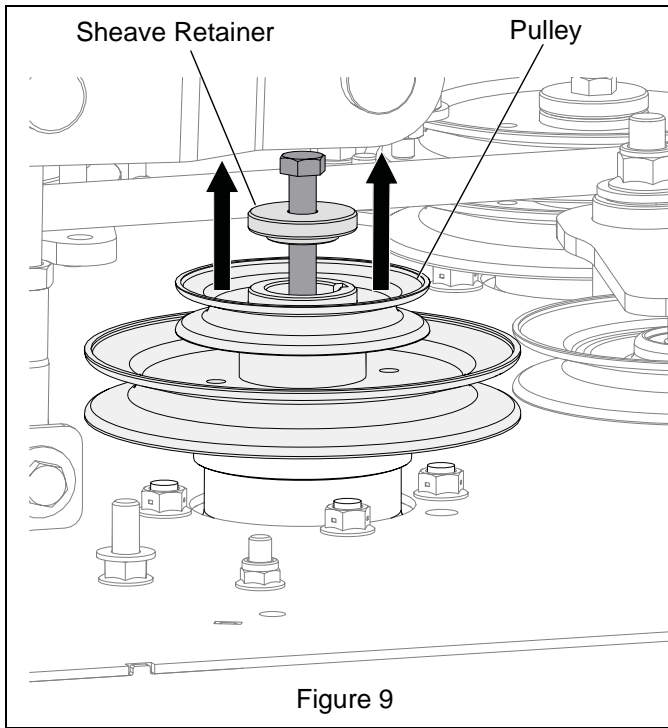

Figure 9
- Remove 3/8" hex bolt and sheave retainer from top of spindle. Remove pulley. Dispose of pulley and hex bolt. Retain sheave retainer. See Figure 9.